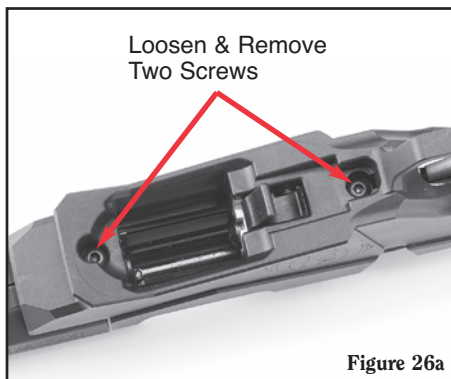

Figure 26a
- c. Loosen and remove the two bedding screws in the bottom of the stock (see Figure 26a).